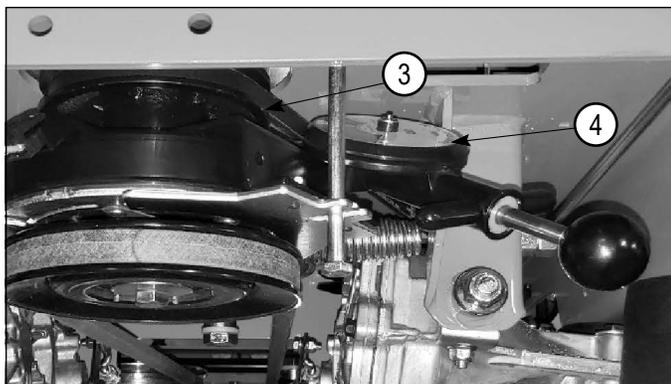

Figure 6-5
3. The tension should be adjusted so that there is between 60–65 lb (27–30 kg) of tension on the belt (3). Recheck belt tension after 30 minutes.
4. Check belt tension with a belt tension gauge (4) (Part Number 041-9999-00) as shown in Figure 6-5.